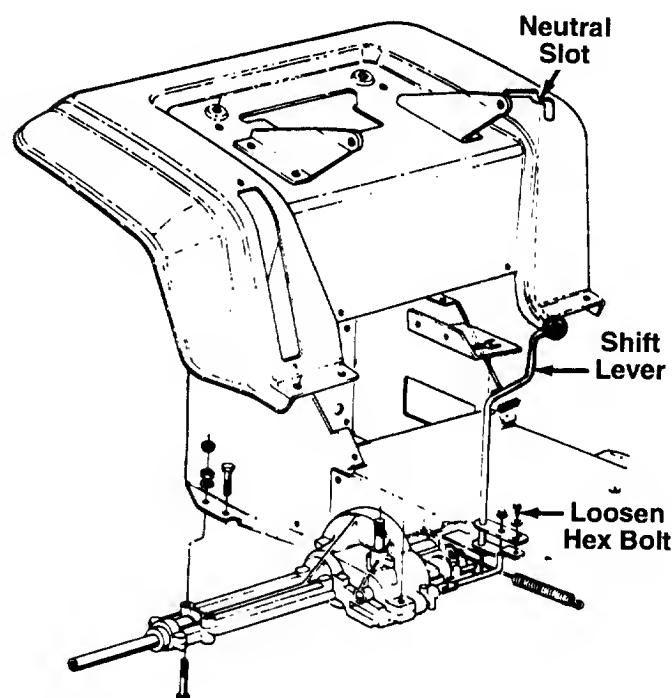

FIGURE 10.
2. Loosen the bolt which secures the shift lever assembly to the shift lever adjusting link. See figure 10.
3. Place the shift lever in the neutral slot. See figure 10.